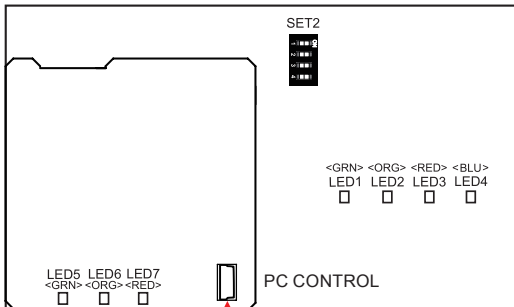

Fig 2. PCB Layout
- 3** Connect miniUSB (Type B) to the mini USB connector on the PCB in the case. (Fig.2)